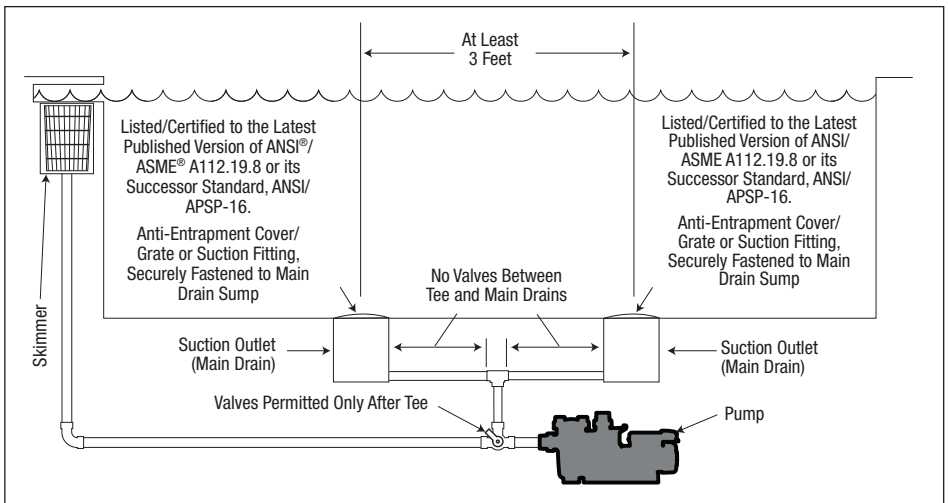

Figure 4. Number of Suction Outlets Per Pump
Number of Suction Outlets Per Pump - Provide at least two (2) hydraulically-balanced suction outlets, with covers, as suction outlets for each circulating pump suction line. The centers of the suction outlets (suction outlets) on any one (1) suction line must be at least three (3) feet apart, center to center. See *Figure 4*.
The system **must** be built to include at least two (2) suction outlets (drains) connected to the pump whenever the pump is running. However, if two (2) suction outlets run into a single suction line, the single suction line may be equipped with a valve that will shut off both suction outlets from the pump. The system shall be constructed such that it shall not allow for separate or independent shutoff or isolation of each drain. See *Figure 4*.